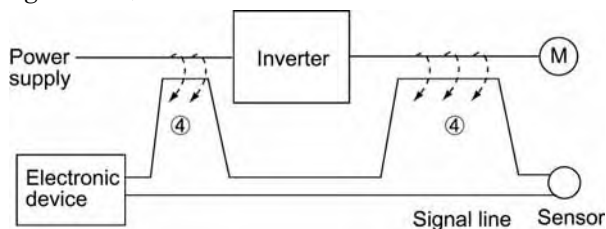
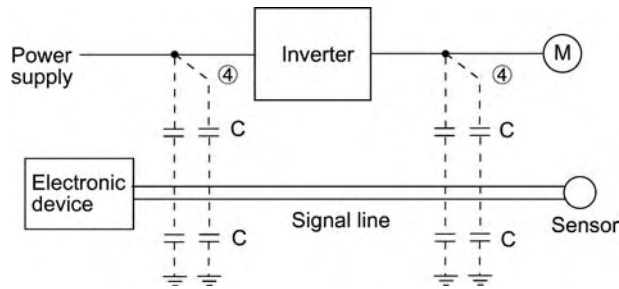

Figure A.4 Electromagnetic Induced Noise
Figure A.5 Electrostatic Induced Noise
(2) Induction noise
When wires or signal lines of peripheral devices are brought close to the wires on the input and output sides of the inverter through which noise current is flowing, noise will be induced into those wires and signal lines of the devices by electromagnetic induction (Figure A.4) or electrostatic induction (Figure A.5). This is called "induction noise" ④.